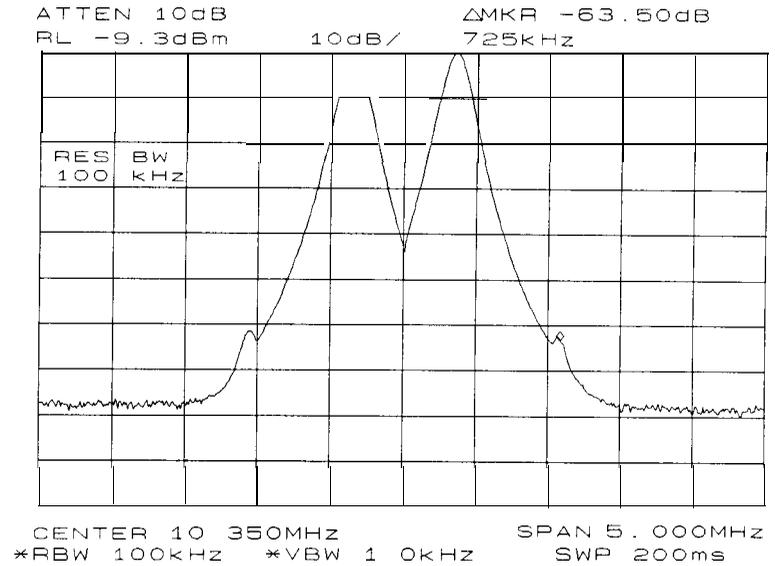

Figure 2-4. 100 **kHz** Bandwidth Resolution
4. Set the resolution bandwidth to 100 kHz and the video bandwidth to 1 kHz. See Figure 2-4.
Use a 100 kHz resolution bandwidth filter to resolve this third-order intermodulation distortion product. The 100 kHz filter has a typical shape factor of 12:1, a 60 dB bandwidth of 1.2 MHz, and a half-bandwidth value of 600 kHz. This half-bandwidth is narrower than the frequency separation, so the two input signals will be resolved. See Figure 2-4.